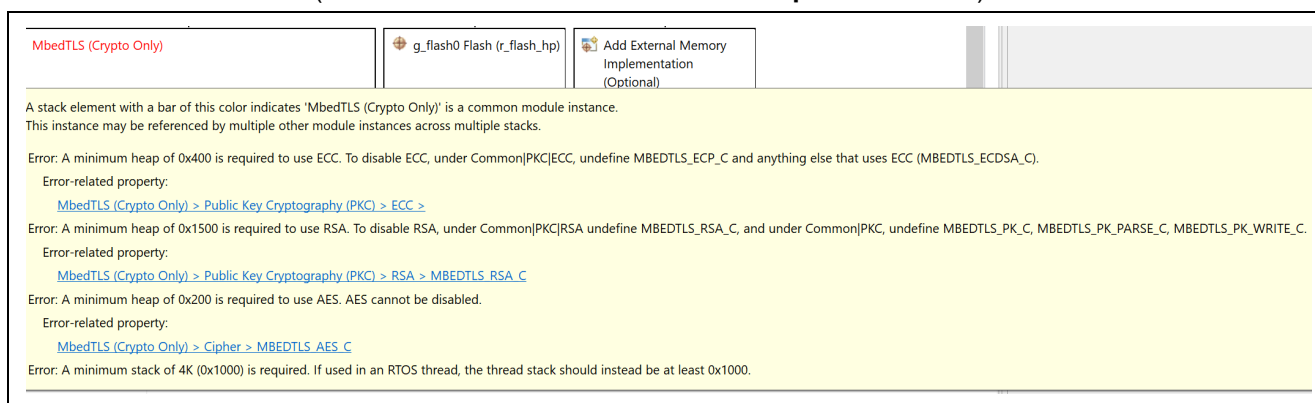

Figure 57. Dependencies of Mbed TLS (Crypto Only) Stack
3. Hover the cursor over MbedTLS (Crypto Only) stack. You will see warnings as shown in Figure 57.